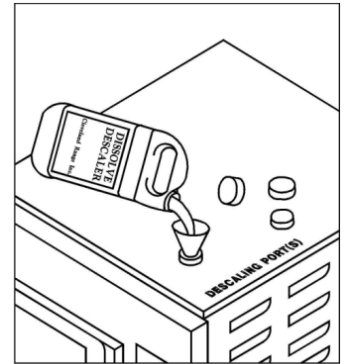

Figure 8-1
- 5) Remove descaling port cap (see Figure 8-1).